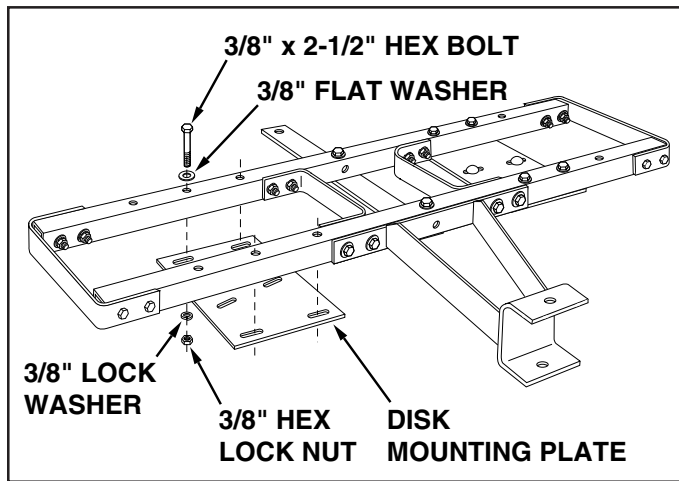

FIGURE 6
7. Assemble the two disk mounting plates to the frame using eight 3/8" x 2-1/2" hex bolts, 3/8" flat washers (placed under bolt heads), 3/8" lock washers and 3/8" hex lock nuts. The middle slots in the plates should angle toward the rear center of the frame. **Do not tighten yet.** See figure 6.